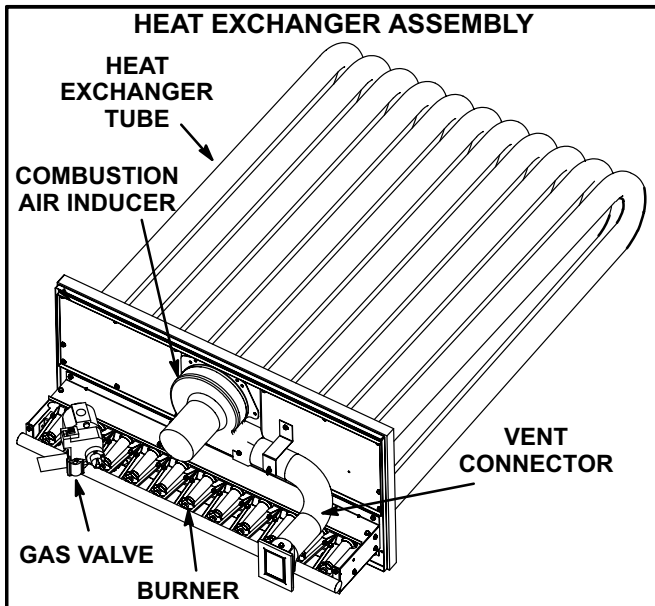

FIGURE 20
- 3- Remove and retain screws securing combustion air inducer to flue box. Remove and retain two screws from bracket supporting vent connector. See figure 20.